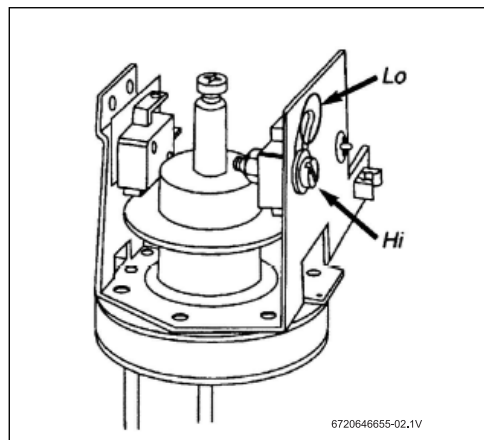

Fig. 5 Power selector screw
- Set the Power Selector Screw (Fig. 5) on the desired setting. If it is set to LO, only one heating element will operate and the output will be half power. See the →Table 4 on page 7 for temperature rise at various flow rates. If the element is set on HI, both heating elements will operate and the output will be full power. When setting the Power Selector Screw, it is important that the screw be adjusted all the way to the end of the slot and that it be well tightened.
The power selector screw not all the way to "HI".	Change the power select screw to "HI", →see Fig. 5 .